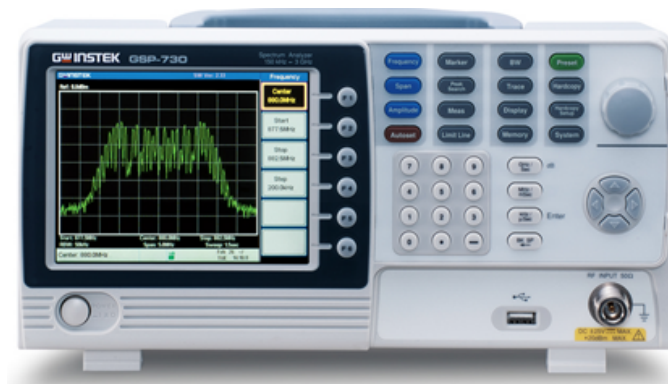

Figure 9: Picture of the Instek GSP730 spectrum analyzer.
- GW-Instek GSP-730 spectrum analyzer (Fig. 9). The GSP-730 is a low-cost 3 GHz spectrum analyzer. It doesn't have the best performance⁸, but we will work around the limitations to make it useful for our labs. The GSP-730 can be remotely controlled from the lab computer by the GGT software provided by GW-Instek.